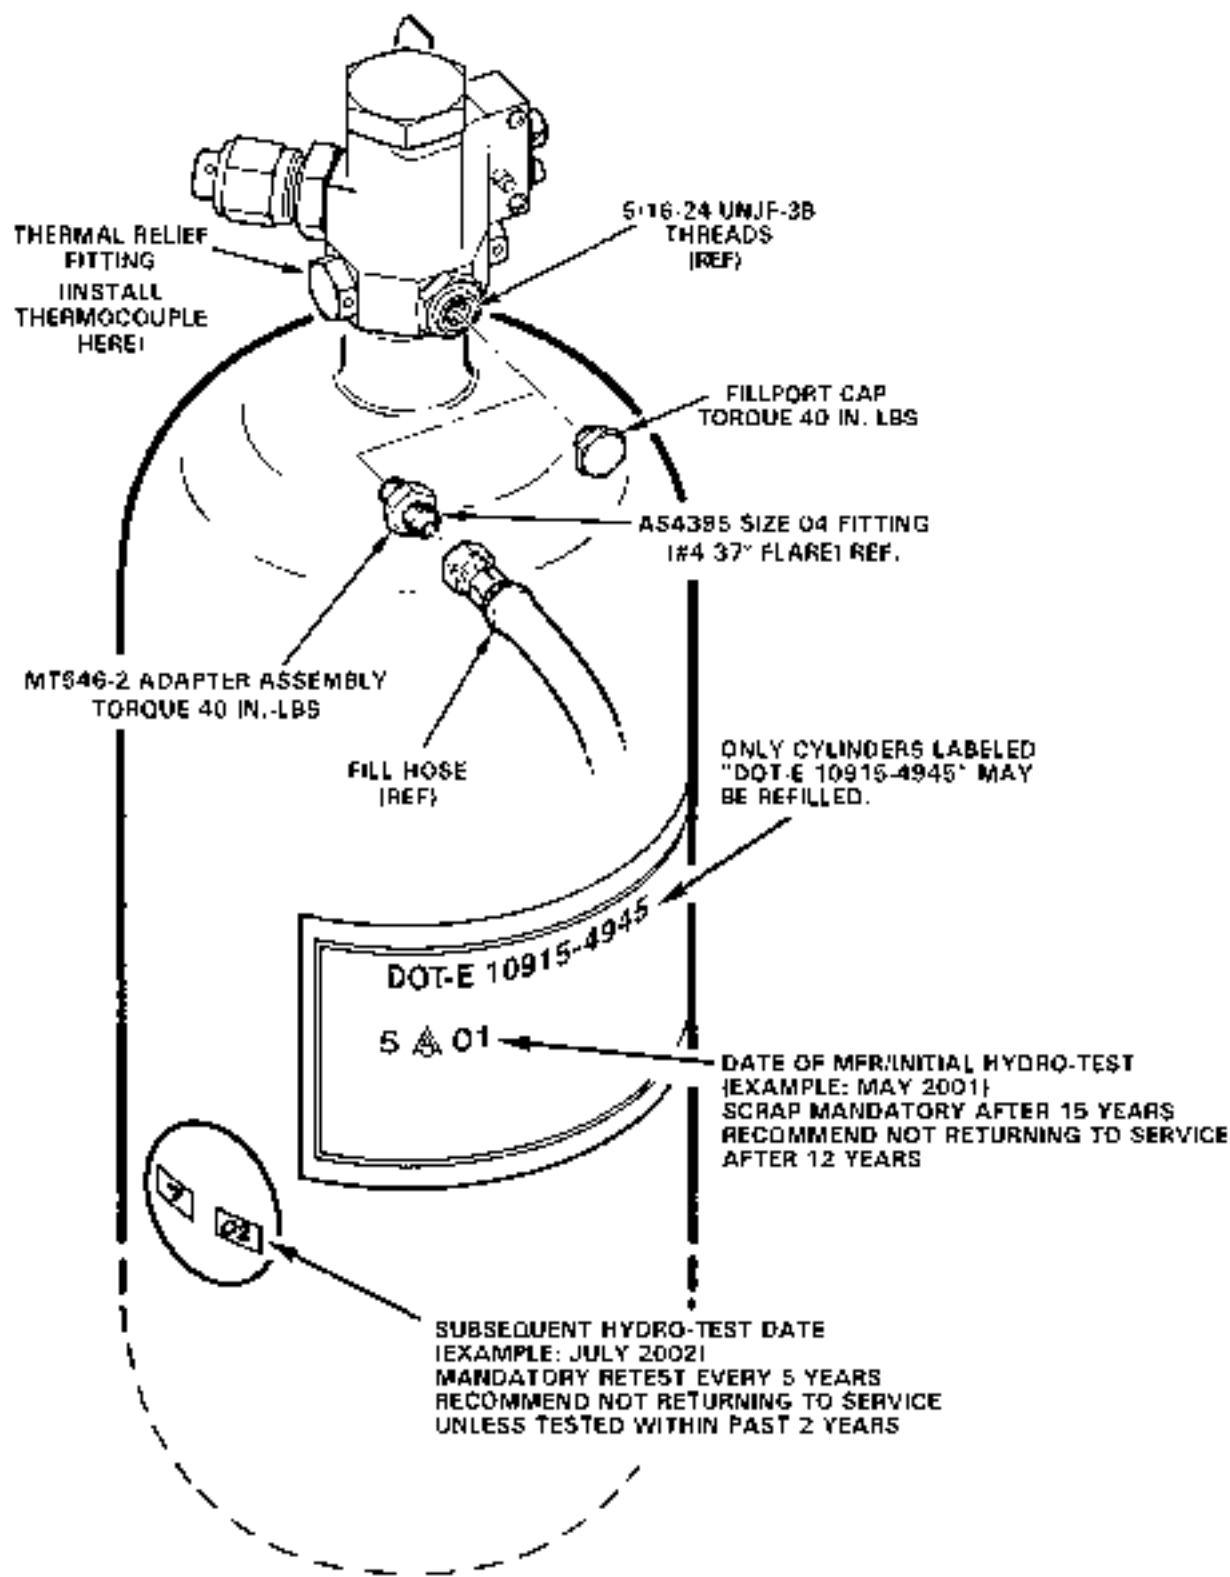

FIGURE 5-6 FILLING PRESSURE CYLINDER
Cylinder contents are under extreme pressure. Install locking pin in pressure cylinder valve (see Figure 5.6) when working in forward left baggage compartment, during cylinder removal or installation, and when working on pop-out floats or inflation hoses. **Remove locking pin when work is completed.**
Cylinder contents are under extreme pressure. Install locking pin in pressure cylinder valve (see Figure 5-6) when working in forward left baggage compartment, during cylinder removal or installation, and when working on pop-out floats or inflation hoses. **Remove locking pin when work is completed.**
5.665 Filling Pressure Cylinder (See Figure 5-6)
**VIEW A-A FROM FIGURE 5-6
Cylinder contents are under extreme pressure. Install locking pin in pressure cylinder valve (see Figure 5-6) when working in forward left baggage compartment, during cylinder removal or installation, and when working on pop-out floats or inflation hoses. Remove locking pin when work is completed.